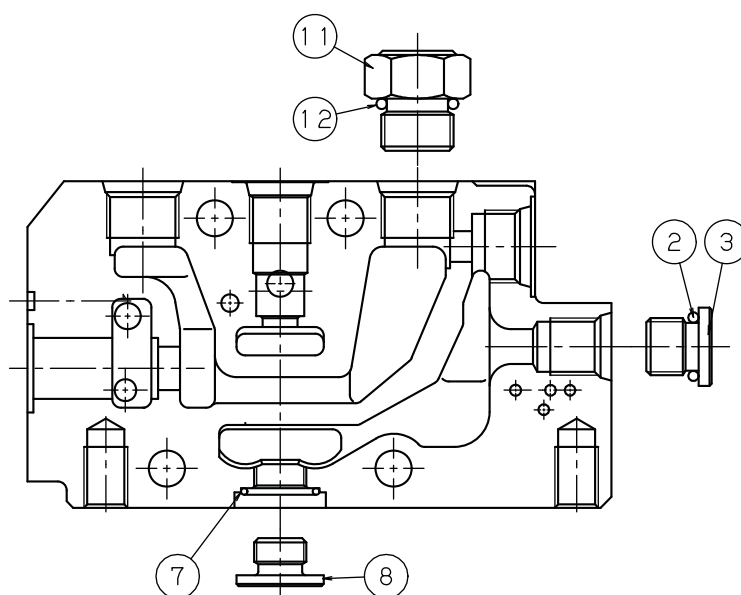

Fig.10 Plugs in boom lock valve component
**Various plugs in boom lock valve component (see Fig.10).**
- ① Loosen and remove plug (11) with 21 mm screw wrench or socket wrench.
- Check O-ring (12) is on the plug side.
- ② Loosen and remove plug (3) with 6 mm hexagonal wrench.
- Check O-ring (2) is on the plug side.
- ③ Loosen and remove plug (8) with 6 mm hexagonal wrench.
- Check O-ring (7) is on the body side for falling off, deformation, or damage.